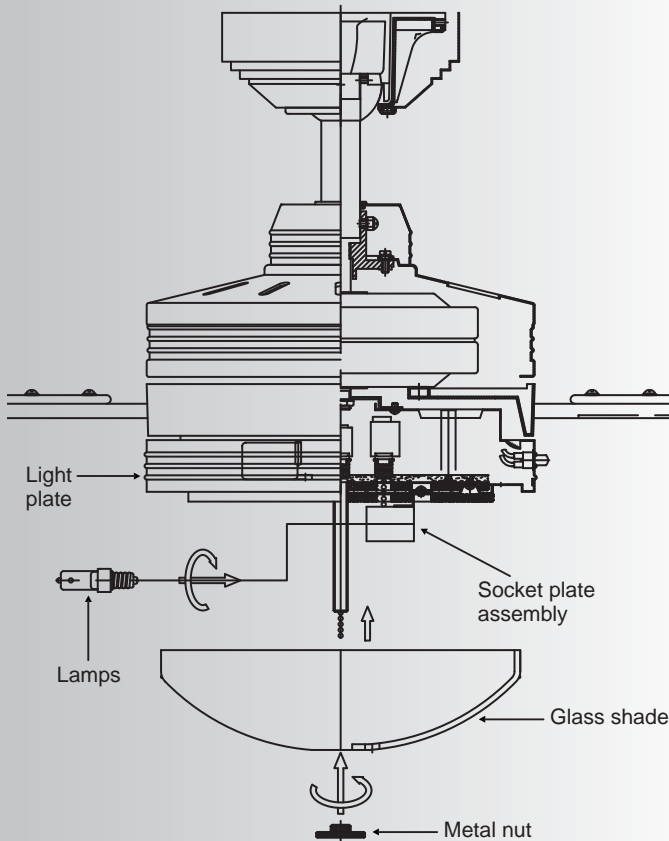

Fig. 17
Step 1. Install the 3, 40 Watt/E12 T3 Krypton lamps (provided). (Fig. 17)
Step 2. Remove the decorative nut, glass cap and metal nut from the light fixture stem. Place the glass shade over the light fixture stem, while holding the glass shade, slip the beaded pull chain into the outside hole in the glass shade, and then secure the shade with a metal nut (rubber side touching the shade). (Fig. 17)